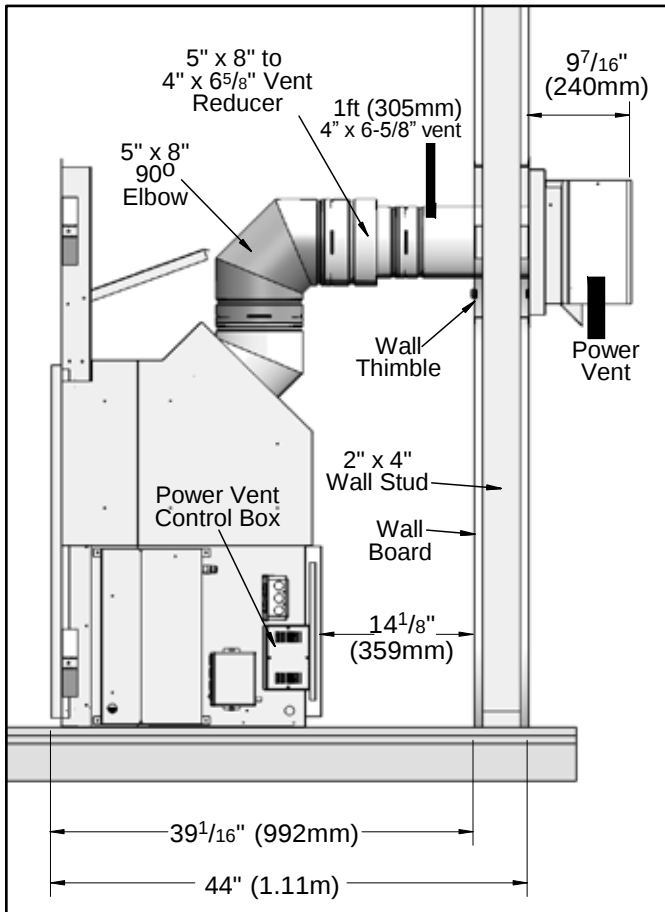

Figure 4 Typical overall dimensions with minimum horizontal vent installed.
- 50 feet (15.25m) of cable is supplied with this kit, if more venting is required, use 706-033 - 100 feet (30.5m) PVK CABLE and connect it as shown on the wiring diagram in Figure 4.
3. Using the dimensions in Figures 4 & 5, frame an opening for the thimble of 14½" x 14½" (368mm x 368mm).